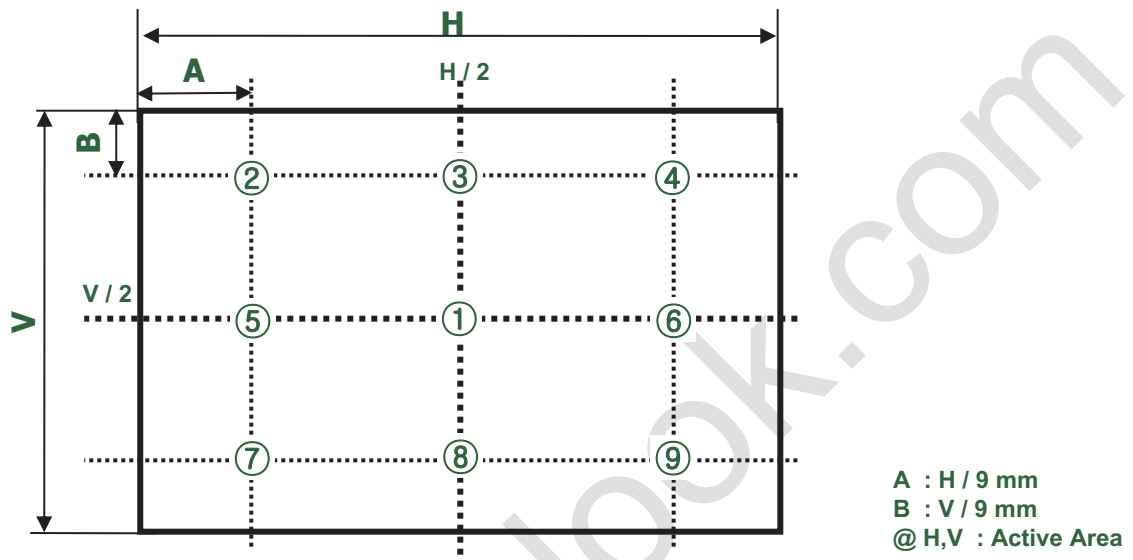

FIG. 2 9 Points for Luminance Measure
2. Surface luminance is determined after the unit has been 'ON' and 1 Hour after lighting the backlight in a dark environment at $25 \pm 2^\circ\text{C}$. Surface luminance is the luminance value at center 1-point across the LCD surface 50cm from the surface with all pixels displaying white. For more information see the FIG. 2